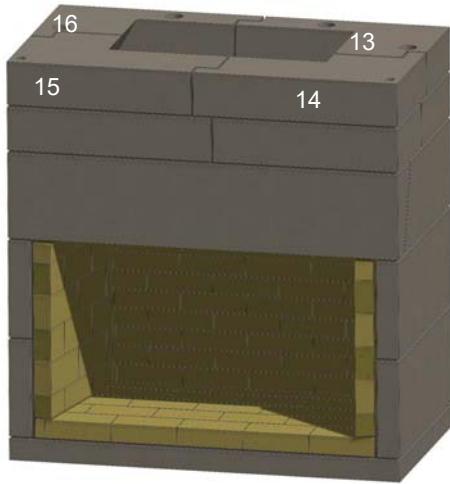

Figure 14. Middle Throat Level
J. Install second ring of four throat components (Items 13, 14, 15, 16). Check with a level. See Figure 14.